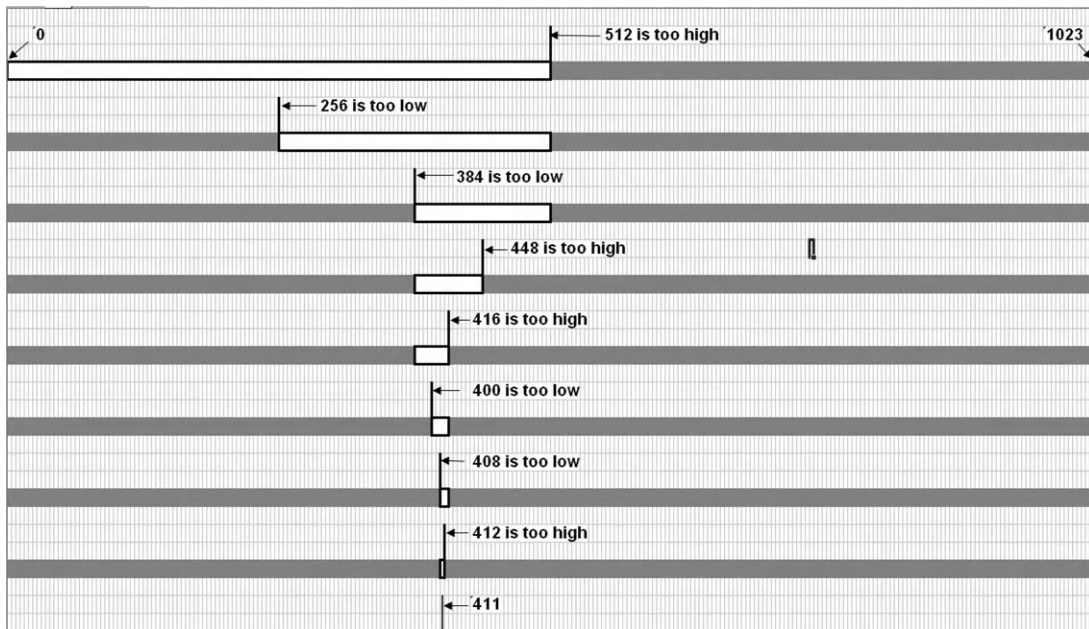

Figure 16.15
Of course, it is entirely possible to guess the number in less than 10 guesses (had your friend picked 512 as the number, you would have guessed it in one guess) but, if the process is done correctly, you will always guess the number in no more than 10 guesses. It is no coincidence that the maximum number of guesses (10) is the power to which 2 must be raised to equal the number of possible choices (that is, $2^{10} = 1024$, where 1024 is the number of numbers between 0 and 1023). To see why, let's draw the number line for all the numbers between 0 and 1023. Figure 16.15 shows successive versions of the number line as each iteration refines knowledge about the range of potential numbers.